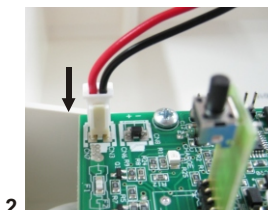

Fig. 3
4. Install the included cable gland. Pass thru the mains cable and stabilize it by fastening the cable gland. Connect the wires to the terminal blocks L for live wire and N for neutral (fig.3).